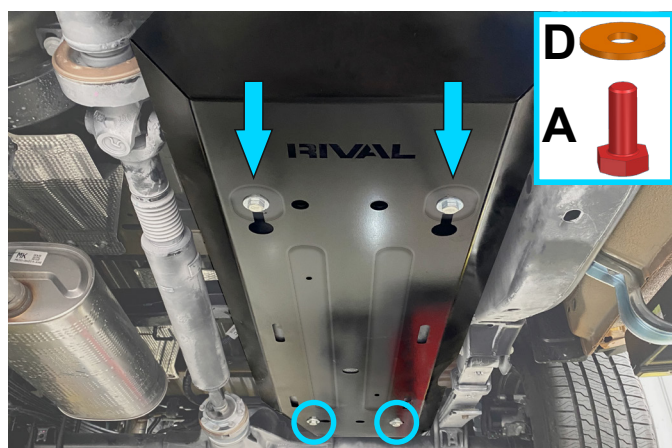

Fig. 8
7. Put gas tank skid plate (item 1) on installed bolts M10x25 and washers 10 from step 6. Fix the rear part of skid plate to rear mount bracket (item 3), using bolts M10x25 (item A) and washers 10 (item D), as shown in fig.8.